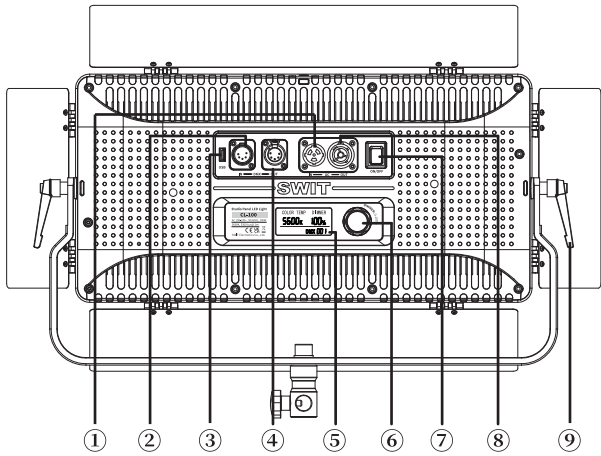

Fig.4 CL-100 Back View
Long press the brightness adjusting knob (Fig.4 ⑥) for 2s to enter in communication address setting interface, communication address range: 001-512.
LCD digital tube field flashing indicates that the current bit is selected, rotate the brightness adjustment knob (Fig.4 ⑥) to set the current bit, press the brightness adjustment knob (Fig.4 ⑥) to set the current bit, press the brightness adjustment knob (Fig.4 ⑥) to determine the setting of the current bit and go to the next bit, when the setting of the last bit is completed, press the brightness adjustment knob (Fig.4 ⑥) or wait for about 5s, to exit the setting of the communication address.